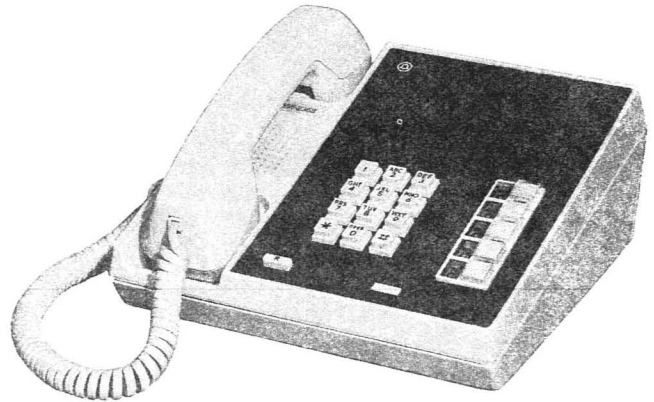

Fig. 1—2991C01 Telephone Set
1.01 This section contains identification, and describes the physical and functional characteristics of the 2991C/D-, 2992C-, 2993C-, and 2994C-type multibutton electronic telephone (MET) sets (Fig. 1 through 8) initially designed to be used with DIMENSION® PBX electronic custom telephone service and the HORIZON® communication system.